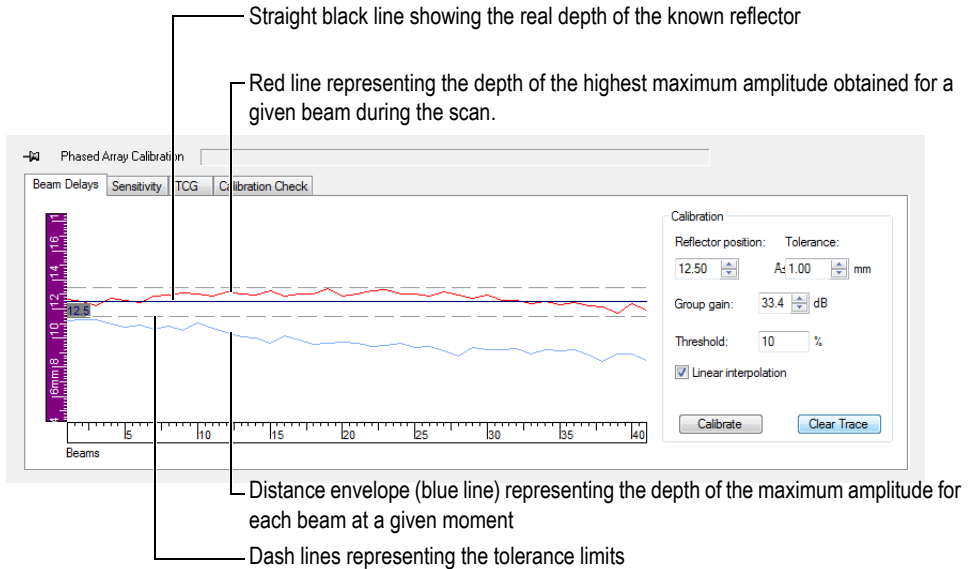

Figure 4-19 Curves for the beam delay calibration
- a) Select the **Beam Delays** tab (see Figure 4-19 on page 246). The graph presents the ultrasonic path between the **Reference** and **Measurement** cursors on the vertical axis and the beams on the horizontal axis.